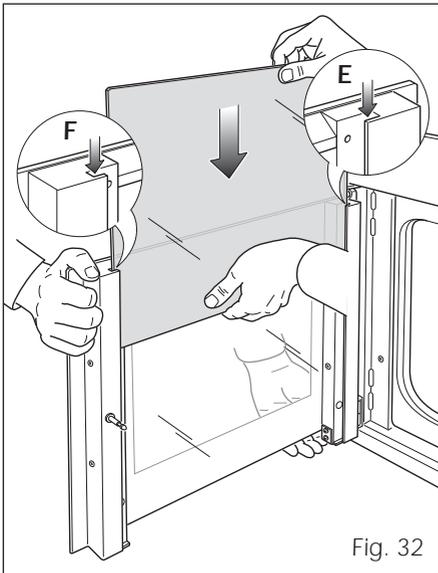
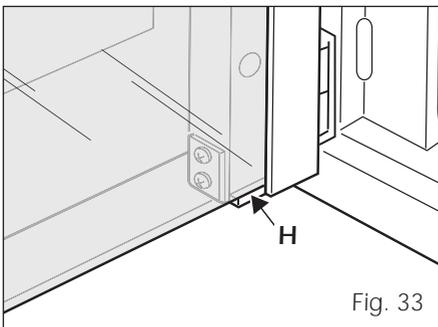

Fig. 32
Fig. 33
- Whilst one person holds the door still, a second person should insert the inner pane in the left **E** and right **F** side guides (fig. 32) and gently let it slide up to the retainers **H** (fig. 33).